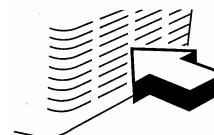

FIGURE 1
- POSITION UNIT TO ALLOW FREE AIRFLOW THROUGH THE FRONT GRILL (SEE FIGURE 1).